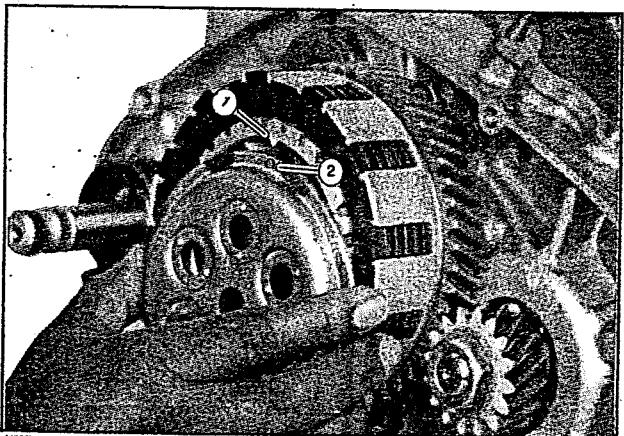

Fig 3.93
Install the clutch-pressure plate so that boss (1) in the clutch sleeve hub is aligned with mark (2) on the pressure plate (fig 3.93)